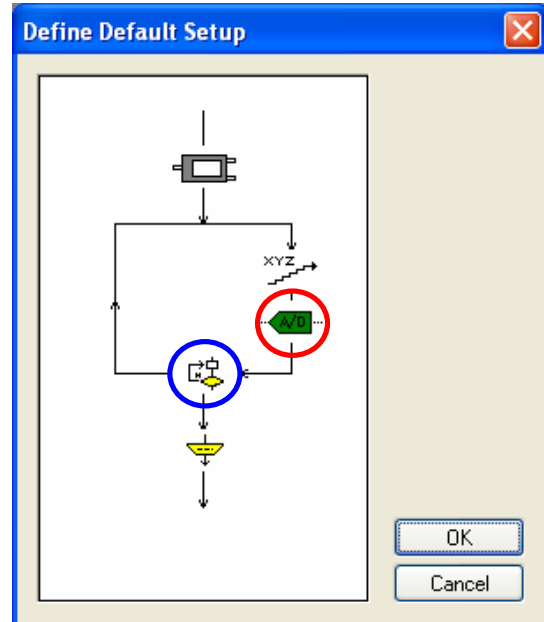

Figure 23: Define default setup window
1. On the MiniCTA software toolbar select Setup/Setup... The “Define Setup” window, shown in Figure 23, opens.